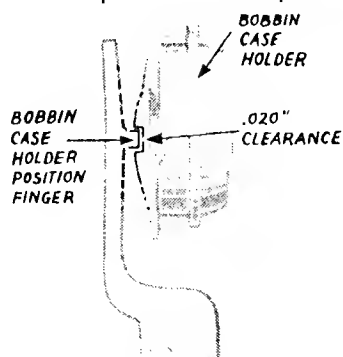

Fig. 32. Showing Thread Clearance Between Bobbin Case Holder Position Finger and Bobbin Case Holder
5. Check position of bobbin case holder position finger Fig. 32. The clearance between position finger and bobbin case holder should be just sufficient to allow thickness of thread to pass through easily. Normal setting is for approximately .020 inch clearance, as shown in Fig. 32. The finger should also be level with top of bobbin case holder.